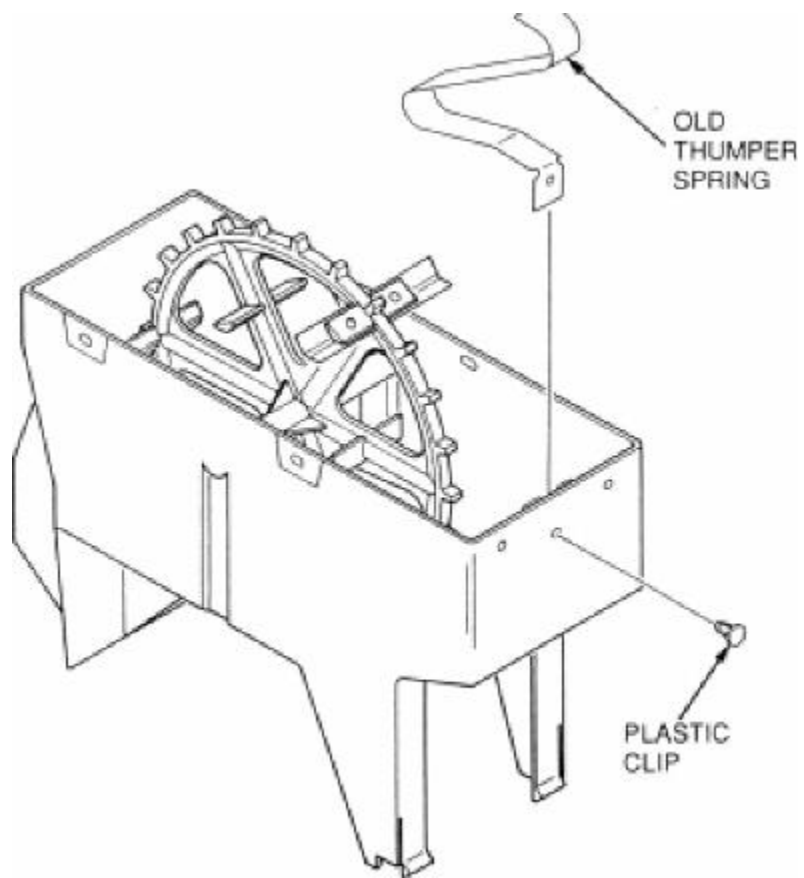

Figure 2
3. See figure 2. From the inside of the canister, push out the plastic clip that secures the old Thumper spring. Remove and discard the spring.